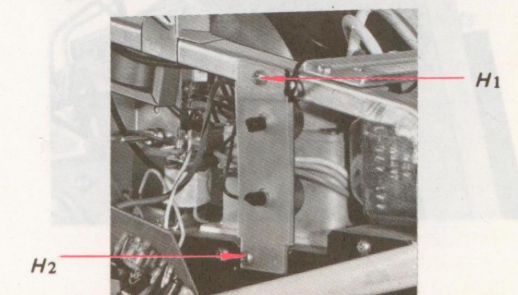

Fig. 2-11. Hold-control removal
2. Remove the two screws labeled H1-2 in Fig. 2-11.